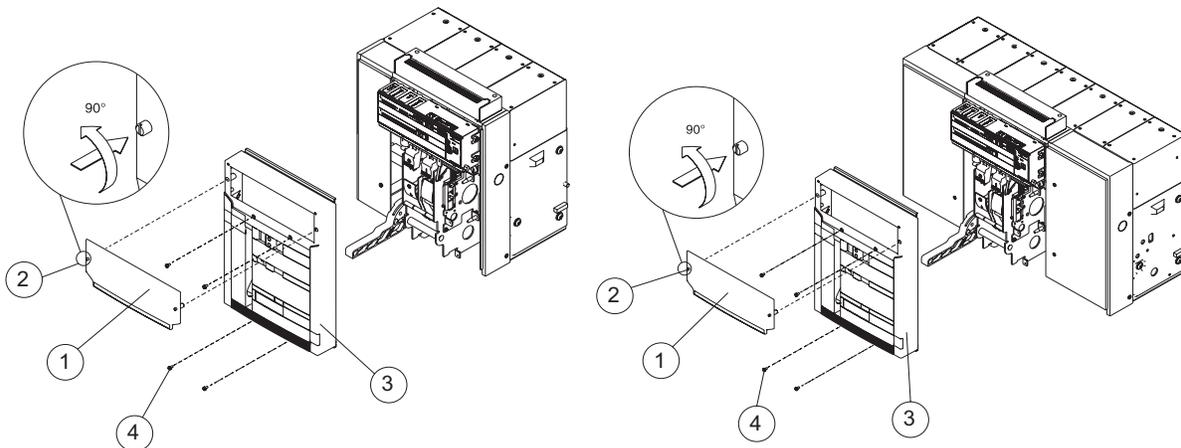

Figure 33.
- The tab (1) of the release by rotating the screws (2) as shown in Figure 33.
- Remove the front cap (3) by loosening the four screws (4).